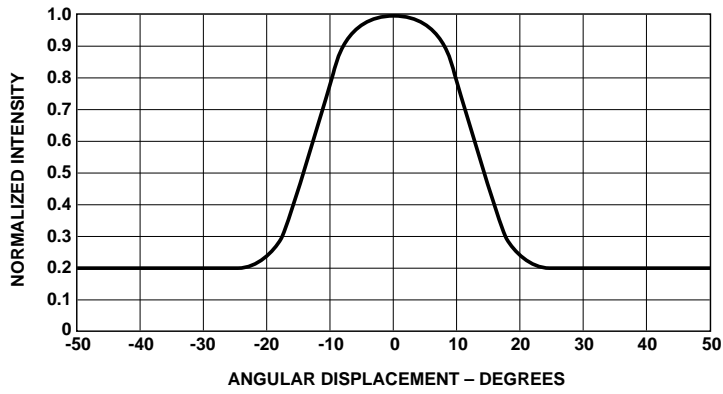

Figure 6. Relative Luminous Intensity vs. Angular Displacement for HLMA-/HLMT-QL00/-QH00.
2. Refer to Figure 6 to establish pulsed operating conditions.